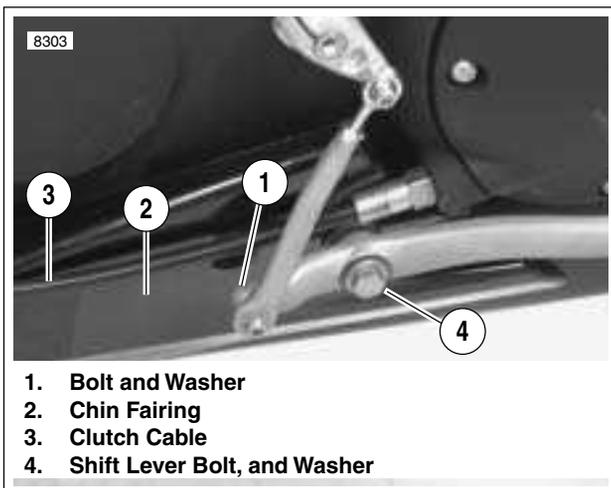

Figure 2-119. Chin Fairing, Left Side
1. See Figure 2-119. Remove two bolts and washers (1) from left side of chin fairing (2) near clutch cable (3).
4. See Figure 2-119. On left side of chin fairing (2), loosely install bolt and washer (1). Loosely install shift lever bolt and washer (4).